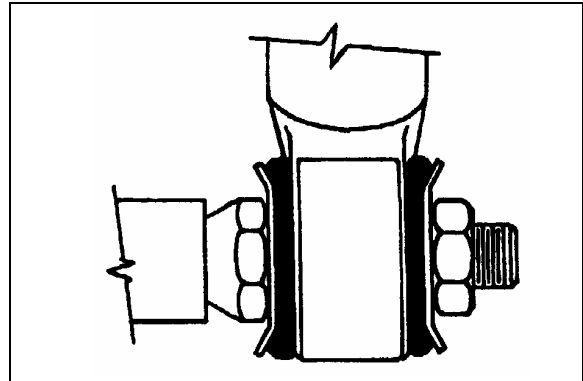

FIGURE 41: TYPICAL SHOCK ABSORBER SETUP
3. Place the inner washers (with washer convex side facing the shock absorber rubber bushing) on each shock absorber pin (Fig. 41).